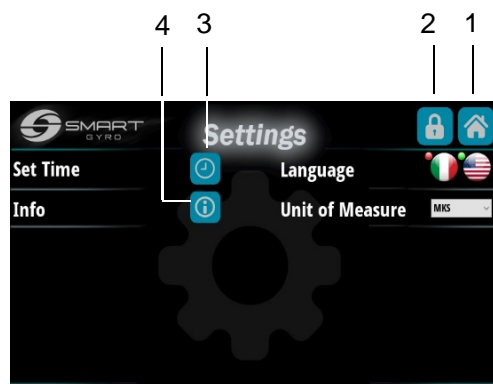
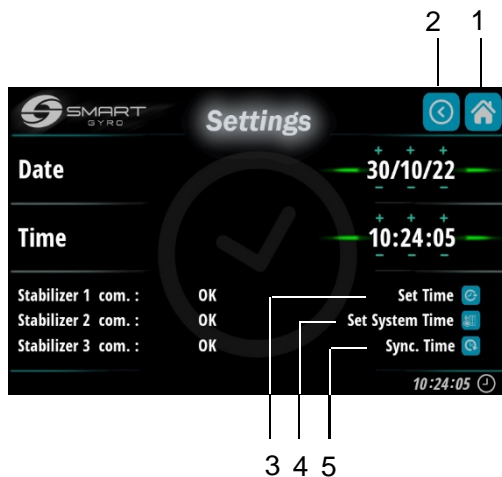
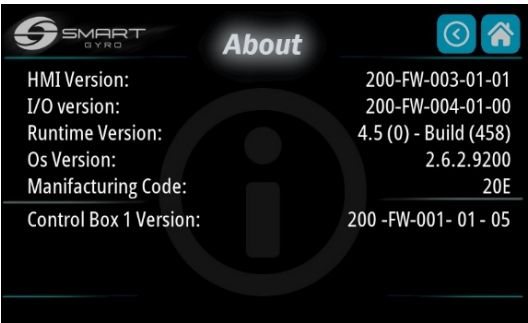

Figure 18
Figure 19
Figure 22
Pressing the Setting icon (**Figure 17, (1)**) will take you to the Setting menu page (**Figure 18**).
Pressing the Home icon on the top right corner (**Figure 18, (1)**) will return you to the Home page.
Pressing the icon with the padlock symbol (**Figure 18, (2)**), will take you to a password protected page (only accessible to service personnel) for inspecting/modifying some internal parameters that are typically accessed during the first time installation of the gyro.
Pressing the Set Time icon with the clock symbol (**Figure 18, (3)**), will take you to the Time and Date setting page (**Figure 19**).
Once the date and time are set, data are saved into the non-volatile memory of the gyro's Control Box by pressing the uppermost icon at the bottom right angle (**Figure 19, (3)**).
Pressing the central icon (**Figure 19, (4)**) saves the time and data into the non-volatile memory of the display.
Finally, pressing the bottom-most icon (**Figure 19, (5)**) discards the data and shows on the screen the current date and time read from the internal Real Time Clock of the gyro's Control Box.
Pressing the Home icon on the top right corner (**Figure 19, (1)**) will return you to the Home page.
Pressing the Back icon on the top right corner (**Figure 19, (2)**) will return you to the Settings page (**Figure 18**).
Pressing the Info icon (Figure 18, (4)), it is possible to visualize the firmware versions of both the display and the control board (installed on the gyro unit) (Figure 22).